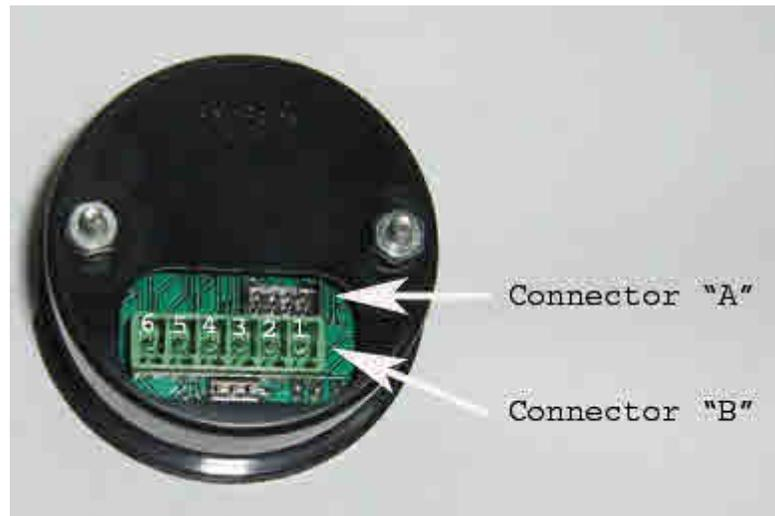

Figure 1
2. **Connect power.** Connect switched 12v (ACC) power to pin 1 of the 6 terminal green connector. See *figure 1* and *chart 1* below. These circuits are commonly known as “accessory” circuits because they are only “hot” when the ignition is turned on. A recommended way of doing this step is to use a product called an “*Add a Circuit*”, made by *Littelfuse*, available at most car parts outlets. These kits, which sell for under \$10, allow you to easily use an existing circuit in the fuse block to power an add-on accessory such as the *Analogic* without the need to cut or splice any wires. Of course, you can also simply splice into an existing 12v switched power wire using traditional methods. Connect ground to pin 2 of the 6 terminal green connector.
3. **Connect sensors.** Connect the 0-5v sensor outputs to the analog inputs (connector A) and EGT outputs (type K thermocouple) to *Analogic* EGT inputs (connector B) if used. See *figure 1*. See *Chart 1* below for pin designations. Press the *Analogic* into the gauge pod or mounting hardware. Follow instructions in step 2.n) (page 7) below to configure the analog inputs.